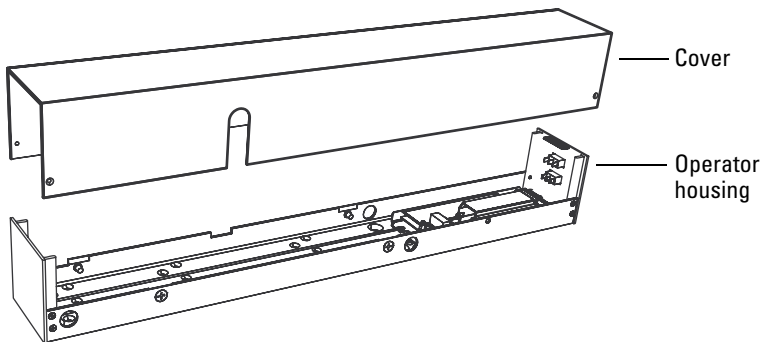

Figure 1.12 Removing the cover from the housing
11. Remove the cover screws and slide off the cover from the operator housing. See Figure 1.12.